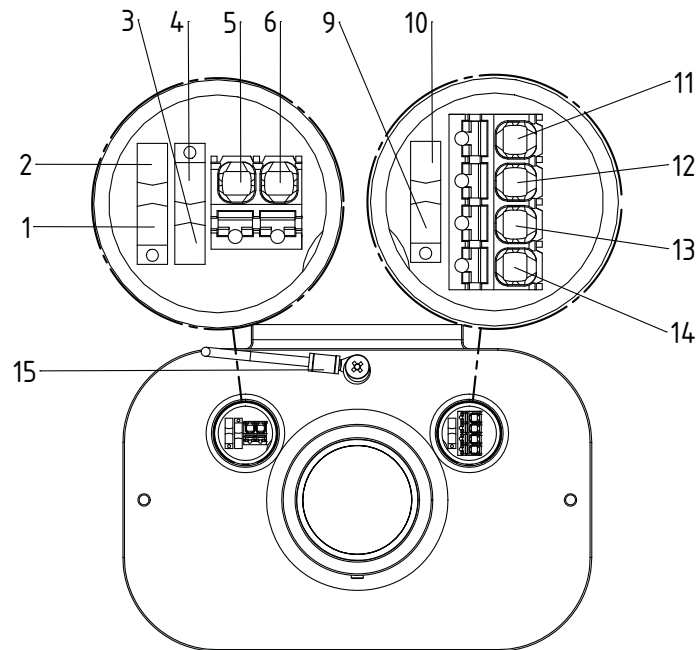

Fig. 8:
- Connect the cable as shown in Fig. 8 / Fig. 10.
- Fasten the adapter with the cable gland (2), then tighten the cap nut (1) with a torque of approx. 5 Nm (applies to Eltex grounding cables with an external cable diameter of 8.6 mm). The gasket must not be damaged.
A two-core cable for connecting the ground circuit with the PAL bonding lead is routed into the connecting terminal space via the cable inlet (5, 6 Fig. 8 / Fig. 10). The double routing ensures that any disruptions to the PAL bonding lead are identified.
The two PAL leads belong to the intrinsically safe circuit, see cable entry 5, 6 Fig. 8 / Fig. 10.